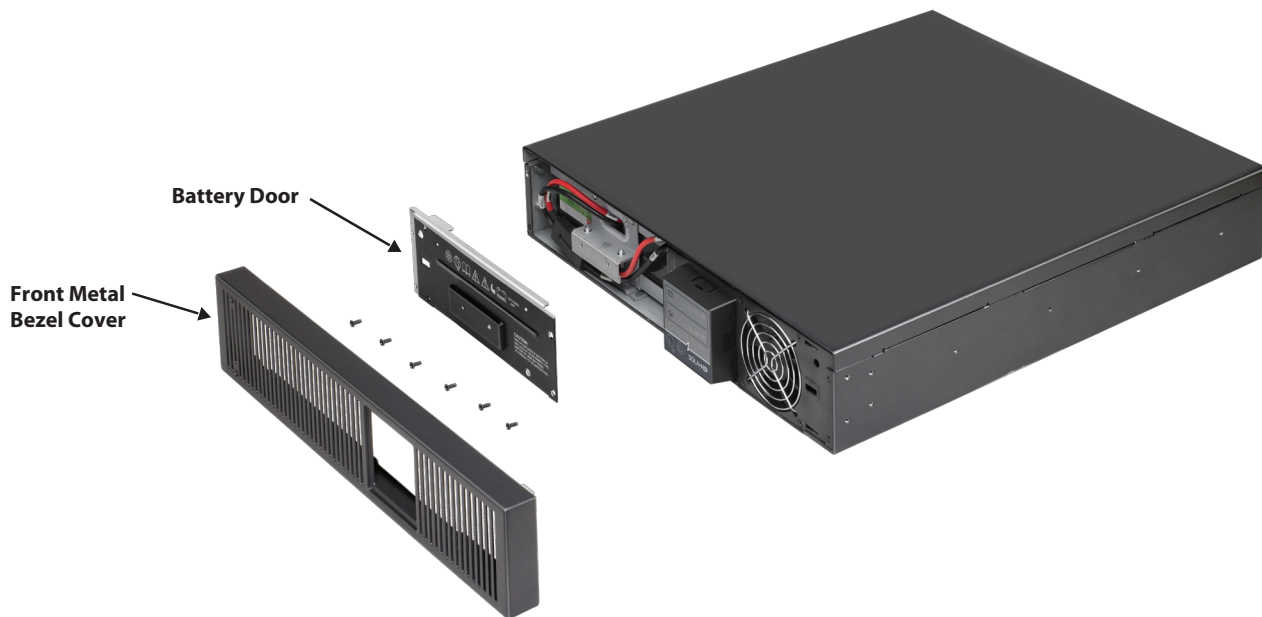

Figure 28: Removing the front metal bezel cover and battery door
2. Loosen and remove the six screws on the battery door, as shown in Figure 28.